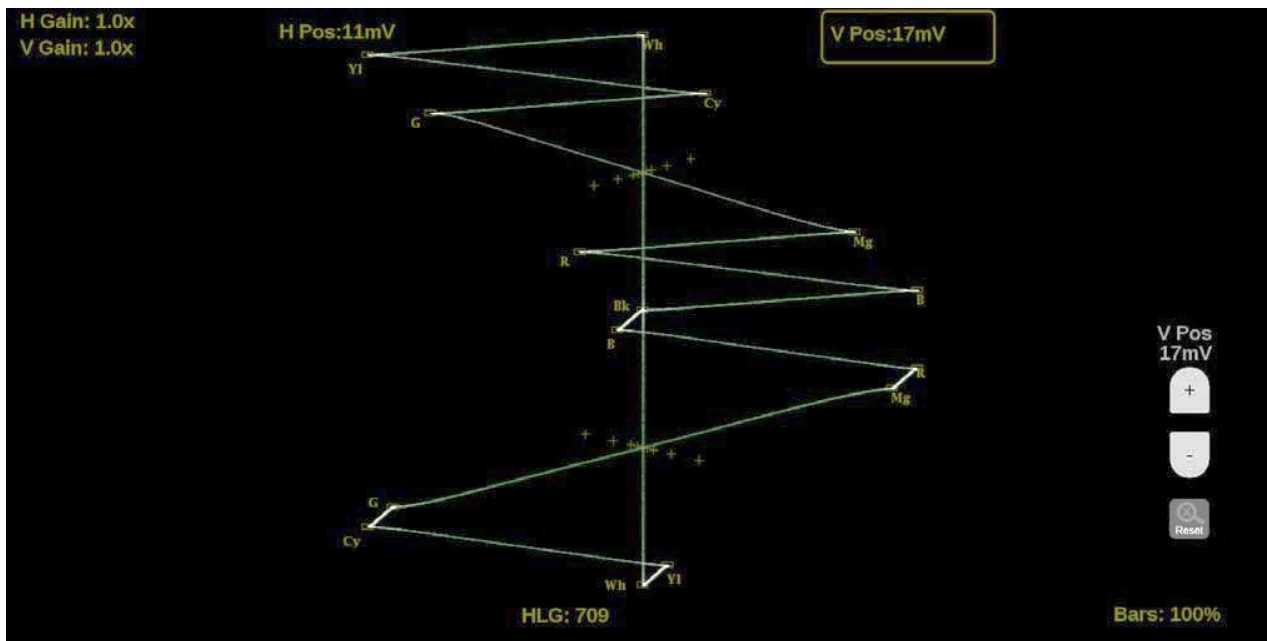

Figure 216: Lightning on-screen tools – vertical position
2. Select the **V Pos** button to allow adjustment of the vertical trace. (See Figure 216.)